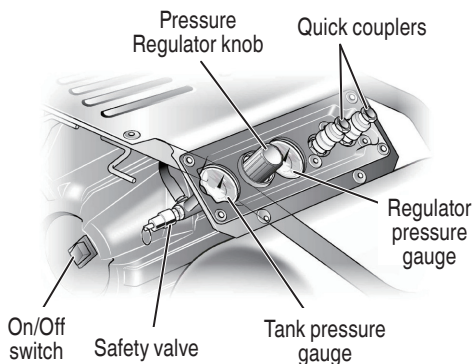
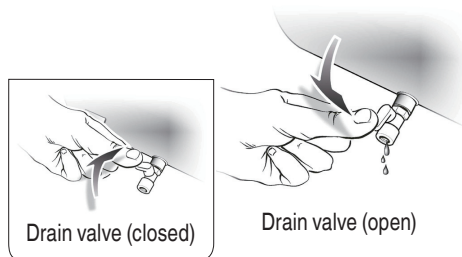

Fig. 3
Fig. 4
- Insert the hose into the quick coupler already installed on the compressor. (Fig. 3)
- Pull the pressure regulator knob out and turn fully clockwise to open the air flow. (Fig. 3)
- Place the switch in the **OFF (O)** position and plug in the power cord.
- Open the drain valve completely (Fig. 4).
- Turn the air compress **ON (I)** and run the air compressor for 10 minutes to break in pump parts.
- Place the switch in the **OFF (O)** position.
- Close the drain valve (Fig. 4).